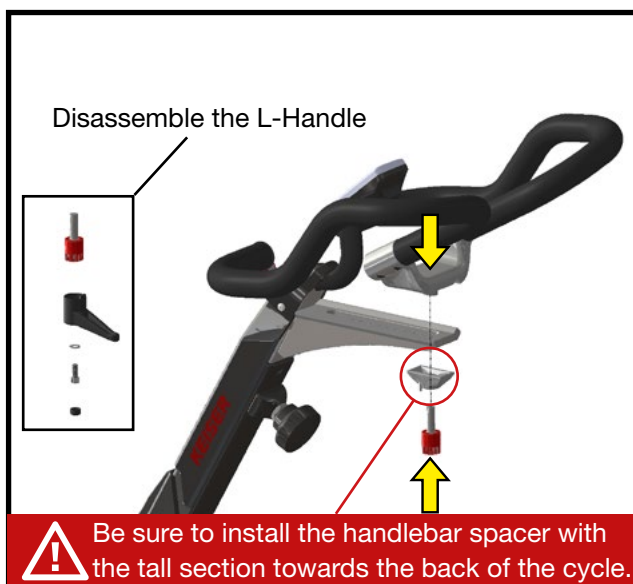

Figure 17. Assemble Handlebar, Handle Stud, and the Handlebar Spacer
- b) Fit the L-handle stud in the handlebar spacer, and then attach the handlebar to the handlebar slide, refer to Figure 17. Hand tighten the assembly.